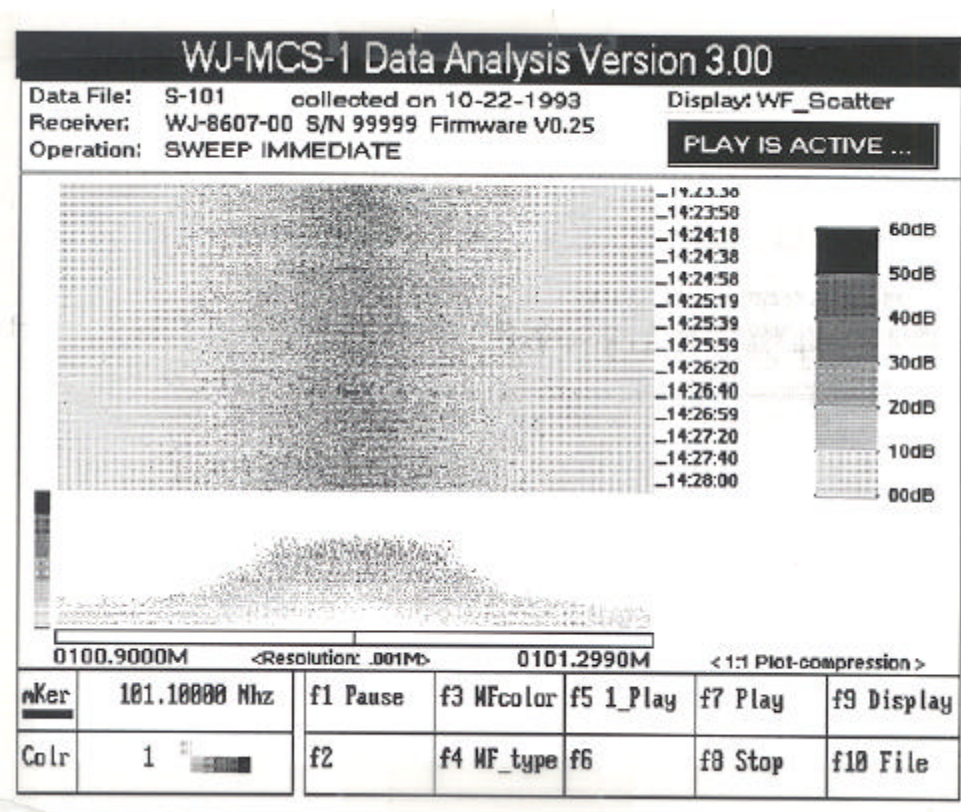

Figure I-41. DATA ANALYSIS WF_Scatter Display
5. "WF_Scatter" - (waterfall scatter, shown in **Figure I-41**) provides the cumulative captured signal activities on the two-dimensional display by plotting points for each captured signal, color coded to show amplitude. The display is not cleared between sweeps, thus enabling the operator to view the signal activity over time.